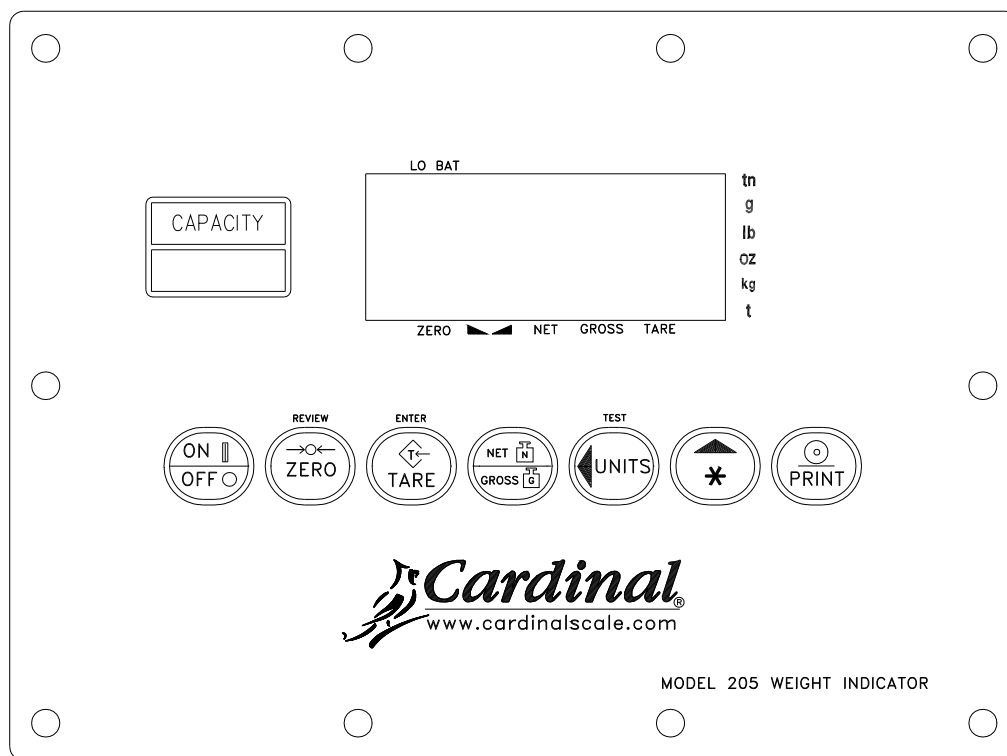

Figure No. 8
**NOTE!** If the sense leads are NOT used, you must install plug-in jumpers at J4 and J5 adjacent to the terminal block. These jumpers attach the sense leads to the excitation leads. If sense leads ARE used (as in motor truck scales), these plug-in jumpers should be positioned on one plug-in pin only or removed and stored for later use (see Figure No. 8).